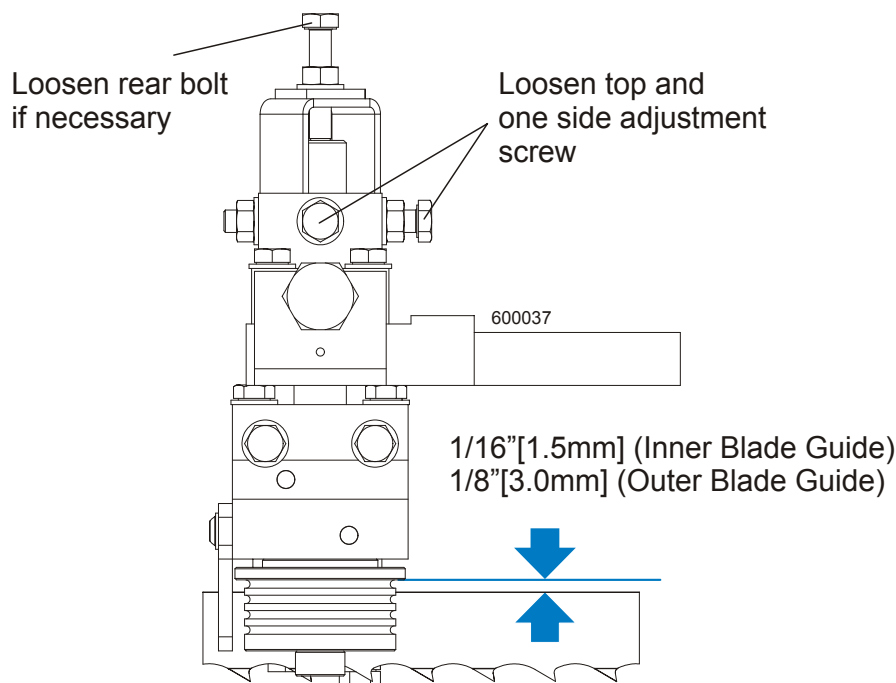

FIG. 5-12
**See Figure 5-12.** Loosen the top and one side screw shown and rear adjusting bolt if necessary. Tap the blade guide forward or backward until properly positioned. Retighten the screws and jam nuts.